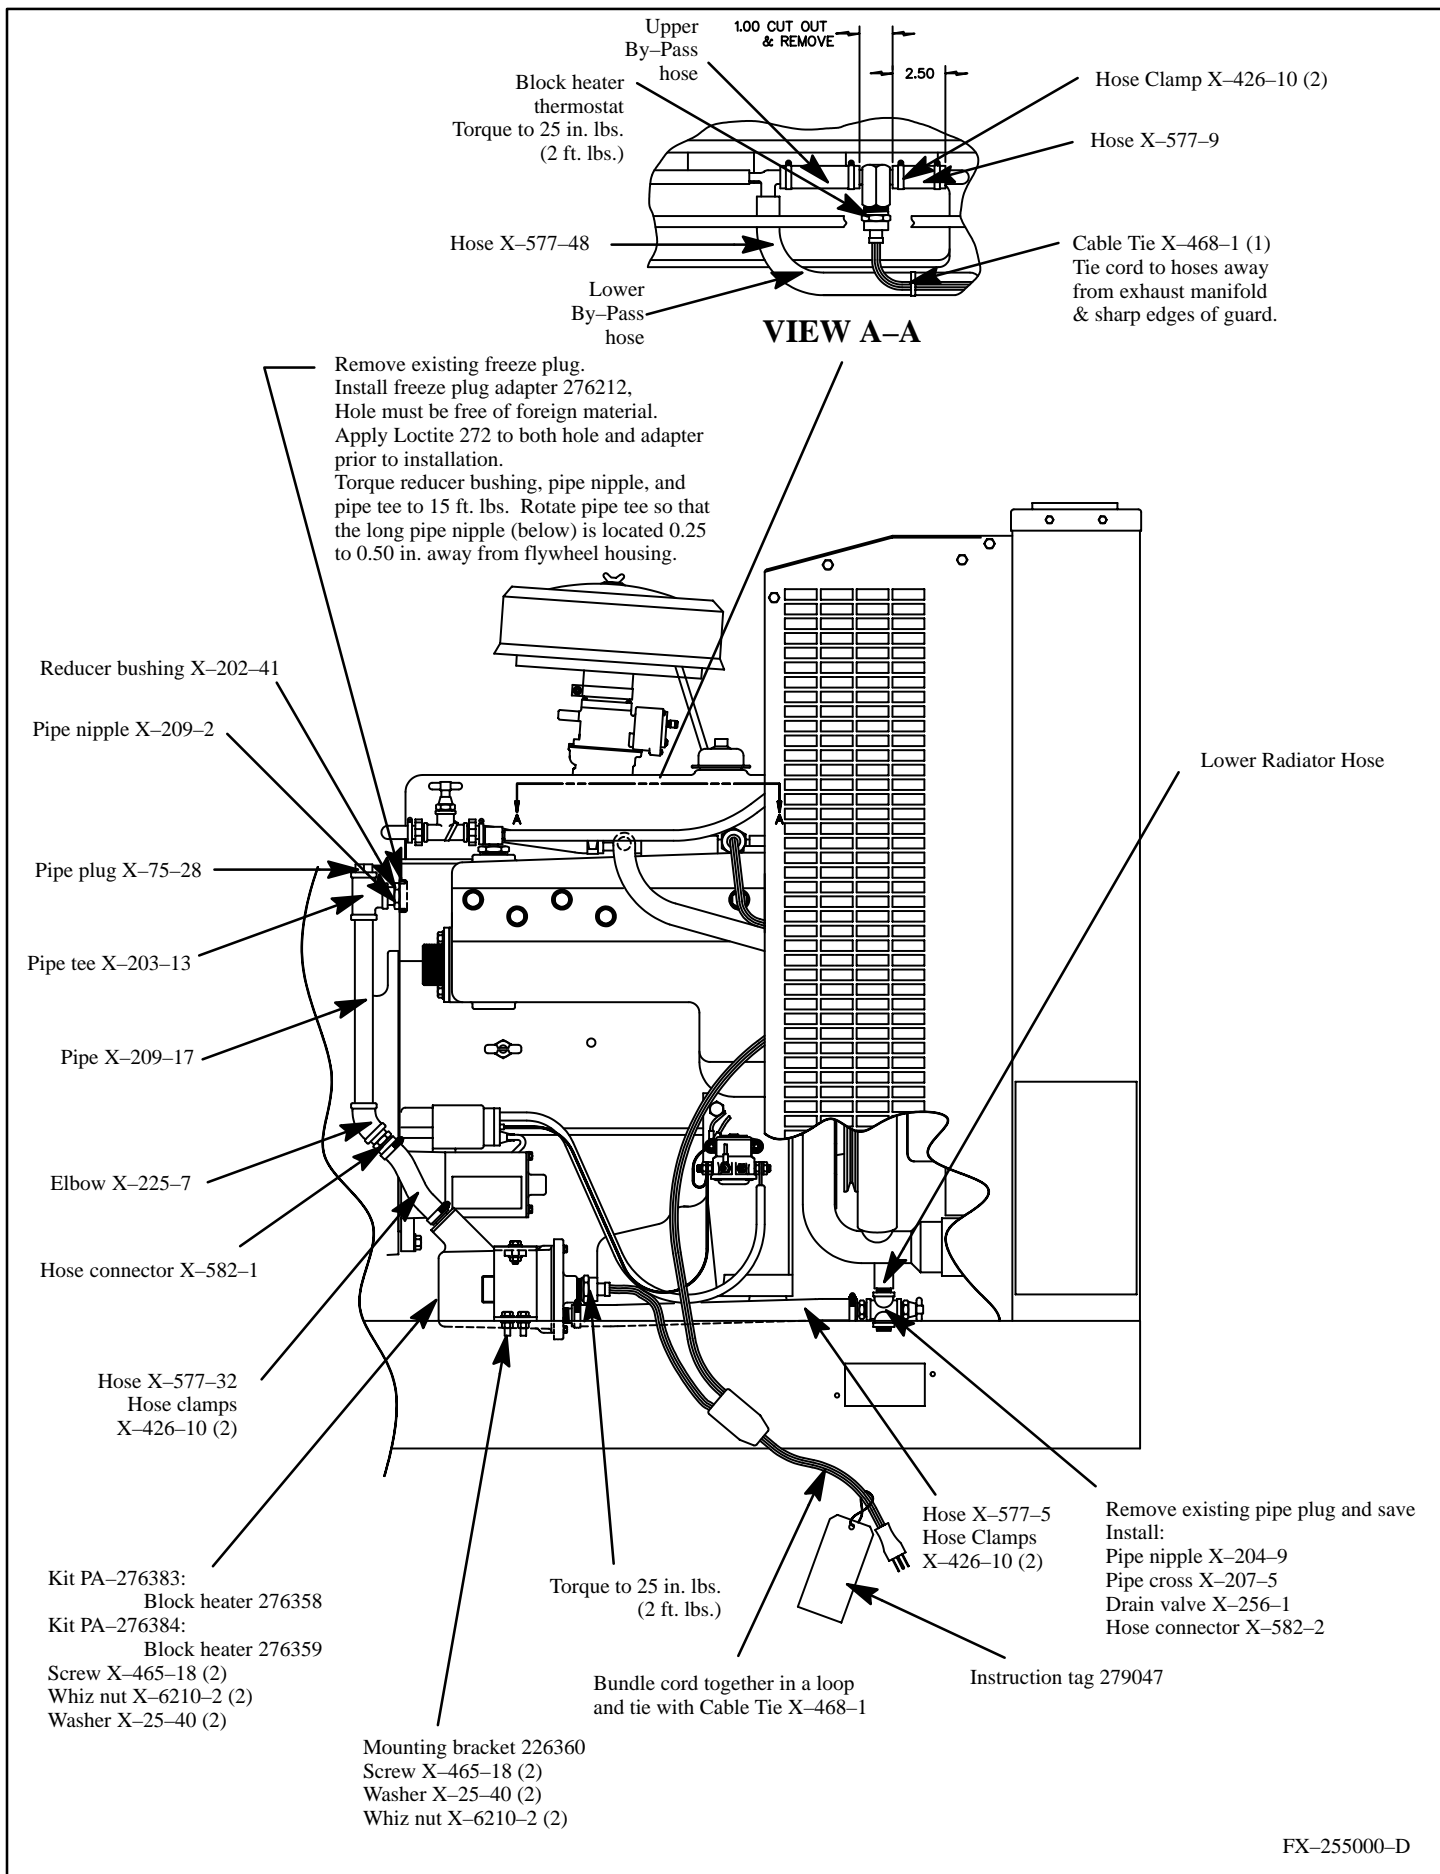

Figure 1. Block Heater Installation
3. Remove freeze plug from engine. See Figure 1 for location. To remove freeze plug, use a freeze plug puller, or puncture center with punch and pry out. Clean hole and remove burrs.
13. Install block heater 276358/276359 to bracket using two screws X-465-18, plain washers X-25-40, and whiz nuts X-6210-2. Note torque specification in Figure 1.
15. Locate lower radiator hose (see Figure 1) and remove and save pipe plug.
18. Apply pipe sealant to male threads of drain valve X-256-1 and install into cross pipe at position shown in Figure 1.
19. Apply pipe sealant to male threads on hose connector X-582-2 and install into cross pipe at position shown in Figure 1.
Earlier generator sets may not have by-pass hoses long enough to accommodate the installation of the thermostat. Locate the upper by-pass hose (see Figure 1, View A-A). If this hose measures approximately 2 to 3 inches (51 to 76 mm) it will need to be replaced, see Steps 21 and 22. If the hose measures approximately 7 to 8 inches (178 to 203 mm) proceed to Step 23.
24. Place two hose clamps X-426-10 on cut by-pass hose (one on each end). Install thermostat (reference torque specification in Figure 1.) Locate hose clamps 1/4 in. (6 mm) from the end of the hose and tighten. Tie the thermostat's cord to hoses away from exhaust manifold and sharp edges of guard using cable tie X-468-1.